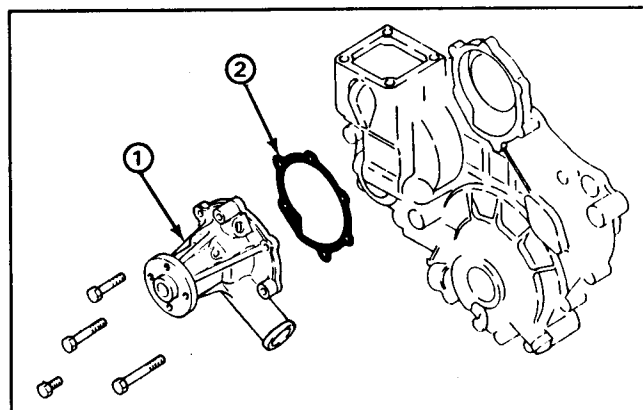

Figure 49
4. Remove the water pump (Fig. 49).